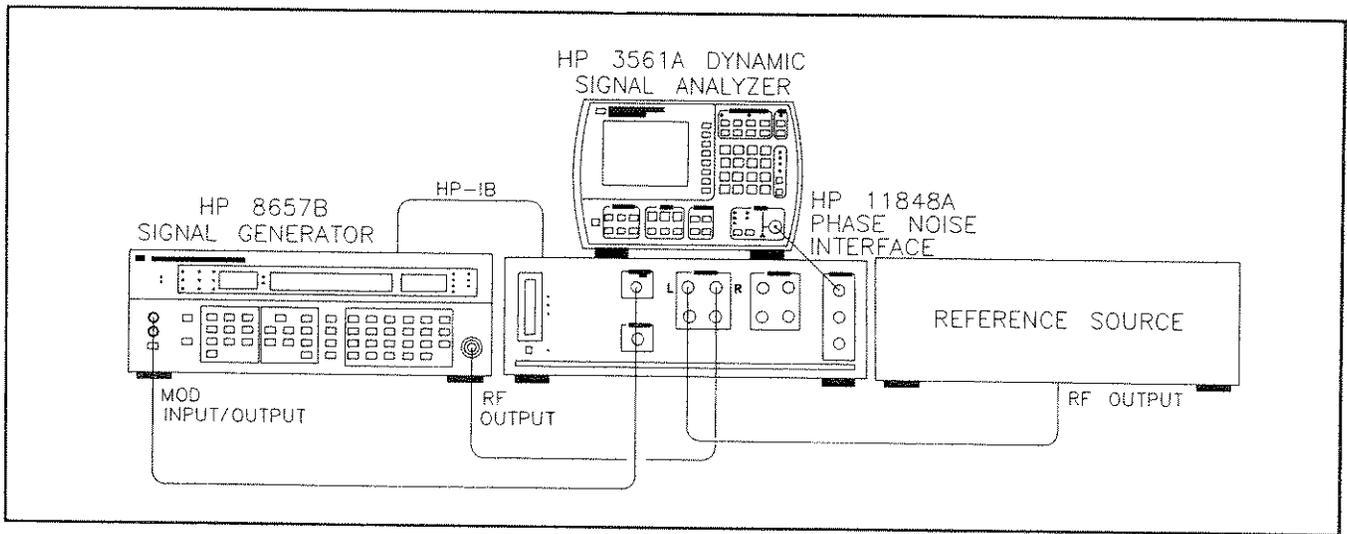

Figure 4-5. Setup Diagram for SSB Phase Noise Measurement
12. When the hardware connect diagram appears in the display, connect the HP 8657B and reference source to the HP 3048A as shown. (Note that the reference source is labeled USERS's DUT on the screen. Figure 4-5 also shows the cable connections for this measurement.)